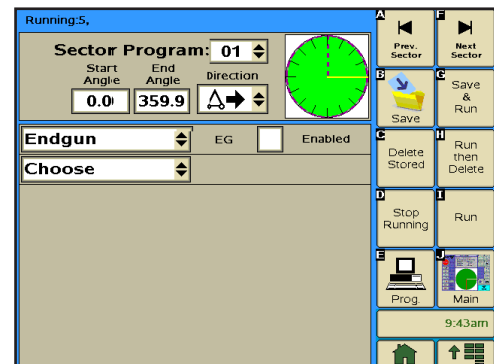

Figure 104-2
1. Push **Prog.** and **Sector Prog.** to view the Sector Program screen. Refer to Figure 104-2.
3. Program the start and end angles, and direction for this sector. Refer to Figure 104-2.
4. Enter the commands for this sector. Refer to Figure 104-2.